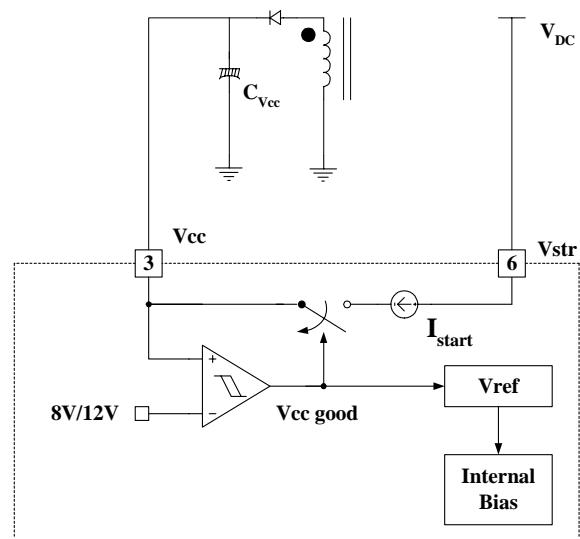

Figure 4. Internal startup circuit
1. Star-up: In previous generations of Fairchild Power Switches (FPSTM), the Vcc pin had an external start-up to the DC input voltage line. In the newer switches, the startup resistor is replaced by an internal high voltage current source. At startup, an internal high voltage current source supplies the internal bias and charges the external capacitor (C_{Vcc}) that is connected to the Vcc pin as illustrated in Figure 4. When the Vcc pin reaches 12V, the FSDM1265RB begins switching and the internal high voltage current source is disabled. Then, the FSDM1265RB continues its normal switching operation and the power is supplied from the auxiliary transformer winding unless Vcc goes below the stop voltage of 8V.